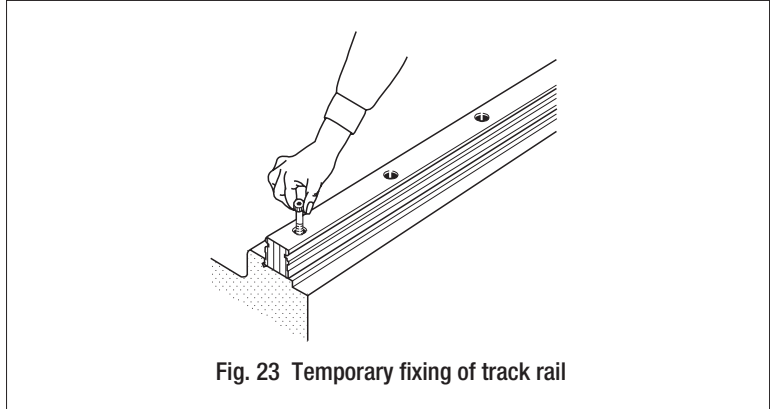

Fig. 23 Temporary fixing of track rail
- Correctly fit the reference mounting surface of Linear Way I track rail onto the mating reference mounting surface of the bed, and temporarily fix the track rail with mounting bolts. (See Fig. 23.)